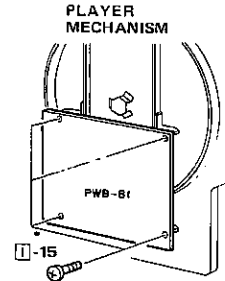

Figure 6-2
- Remove four screws from the P.W.B. shown in Figure 6-2, and take it off.